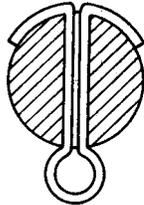

Fig. 14—Method of Clinching Cotter Pin to Clear Wiring
but with the push turn rod pulled out. Insert a new cotter pin as shown in Fig. 14 with the long-nose pliers. The two setscrews in the plunger block should then be tightened securely on the push turn rod with the R-2959 wrench so the position of the plunger block is in accordance with the requirements for plunger block position for the 581A key as covered in Section 032-726-701. Remount the cord unit, tighten the cowl fasteners with the E screwdriver, and insert the 348A plug in the connector.
- (1) If the key fails to meet this requirement, examine the helical spring to determine whether it is broken or distorted in any way and, if necessary, replace it as covered in Section 032-724-801.
- (2) If the key fails to meet the maximum plunger operate pressure requirement, examine the plunger and plunger springs to determine whether a gummy substance has formed on them. If necessary, dismantle the key and clean the plunger and plunger springs as covered in 3.02. If after cleaning, the key still fails to meet the requirement, it may be necessary to reduce the tension of the contact or plunger springs with the 485A pliers.
- (3) If the key fails to meet the minimum plunger operate pressure requirement, it is an indication that the plunger spring tension is insufficient. In this case, adjust the spring toward the center of the key using the 485A pliers as shown in Fig. 14. Check that requirement 2.04(c) is met.